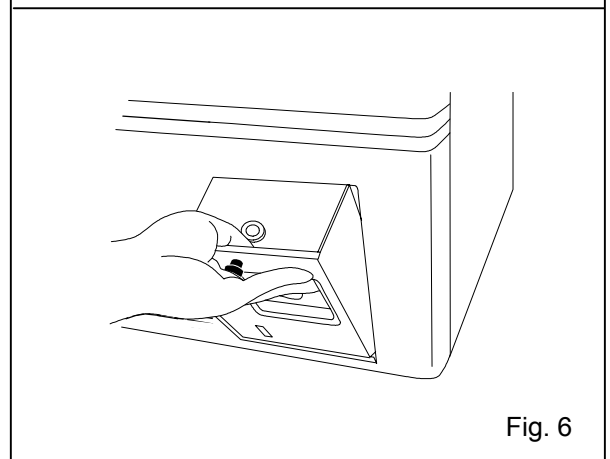

Fig. 6
9. Set the temperature recorder with the frame to the space for temperature recorder. [Fig. 6]
9. Connect the recorder connector to the connector for recorder power located at upper right inside the space for temperature recorder. [Fig. 6]
8. Put the battery box cover over the battery box and fix the battery box cover with screws (3 screws on the right and left). [Fig. 6]